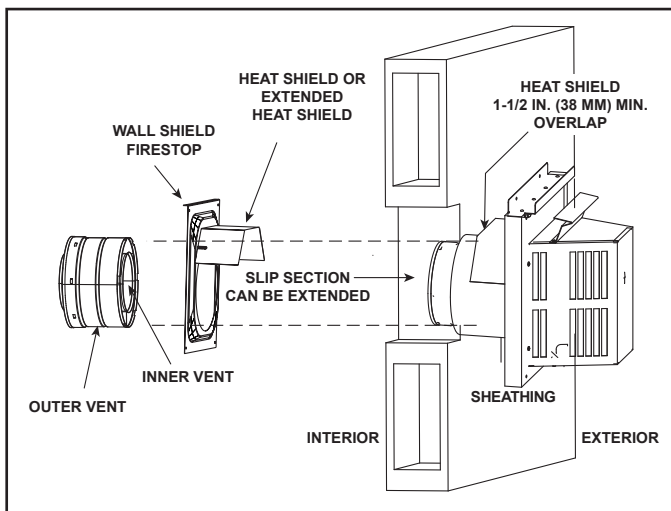

Figure 7.15 Venting Through the Wall - PVI-SLP-B
- **DO NOT** remove the heat shields attached to the wall shield firestop and the horizontal termination cap (shown in Figure 7.15).
There are two sections of the heat shield. One section is factory-attached to the wall shield firestop. The other section is factory-attached to the cap. See Figure 7.15.